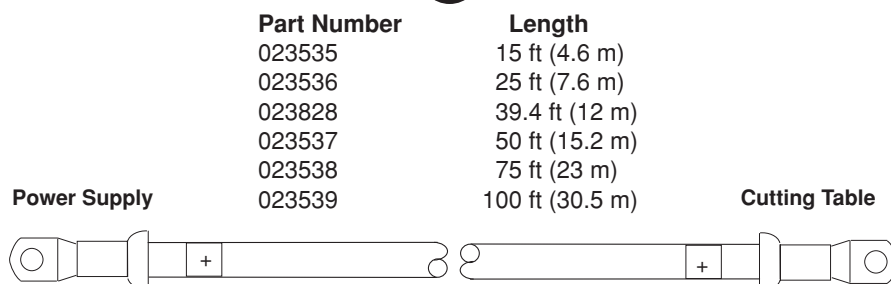

Figure 3-15 Work Cable (+)
#### ⑥ Work Cable (Figure 3-15)